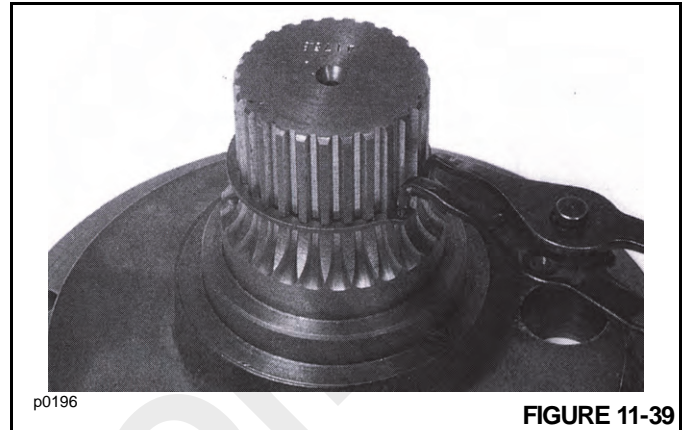

FIGURE 11-39
3. Check the snap ring (6, Figure 11-33) on output shaft (3) to ensure it is in its groove and not bent over (Figure 11-39). Replace if necessary.